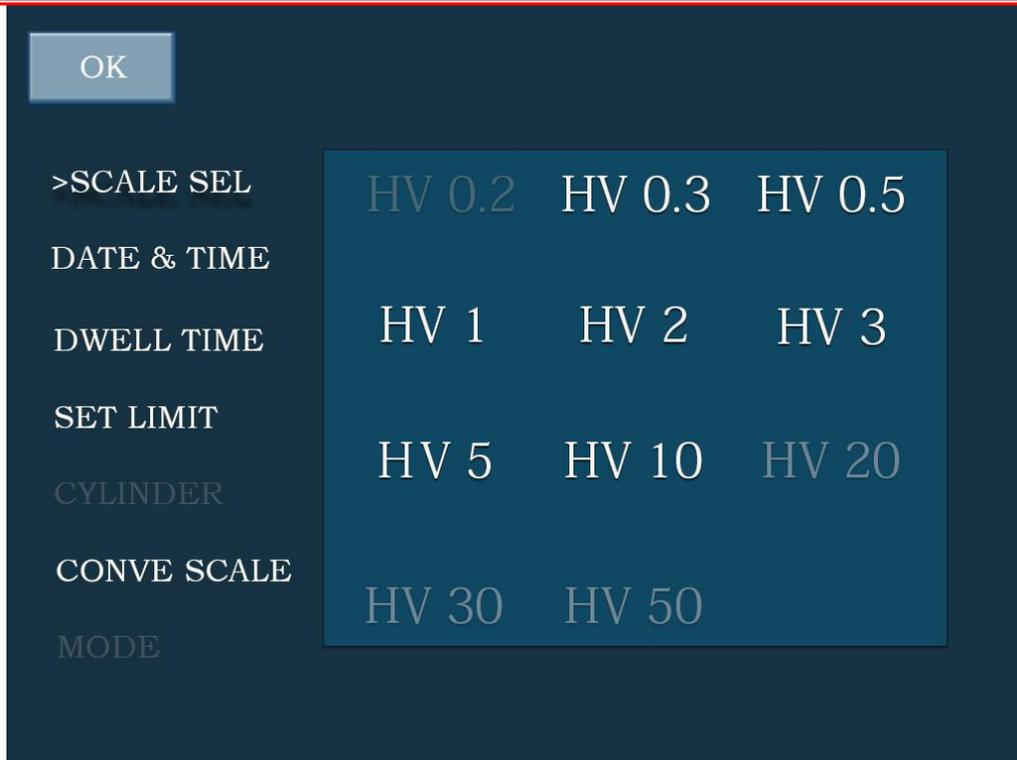

Fig 6
4.3 System Settings Page (Fig 6)